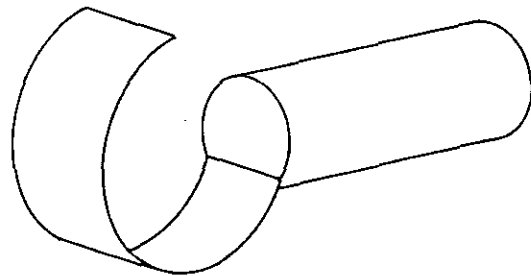

Fig. 2 - Heat Gun Reflector
- d. Apply heat to heat shrinkable tubing using a heat gun with a reflector, Fig. 2. Apply heat to the centre of the tubing and work toward one end. Apply heat again to the centre of the tubing and work toward the opposite end. This procedure will assure an equal distribution of the longitudinal shrinkage. Apply heat only long enough to allow tubing to assume contour of the cable. Application of additional heat will serve no useful purpose.